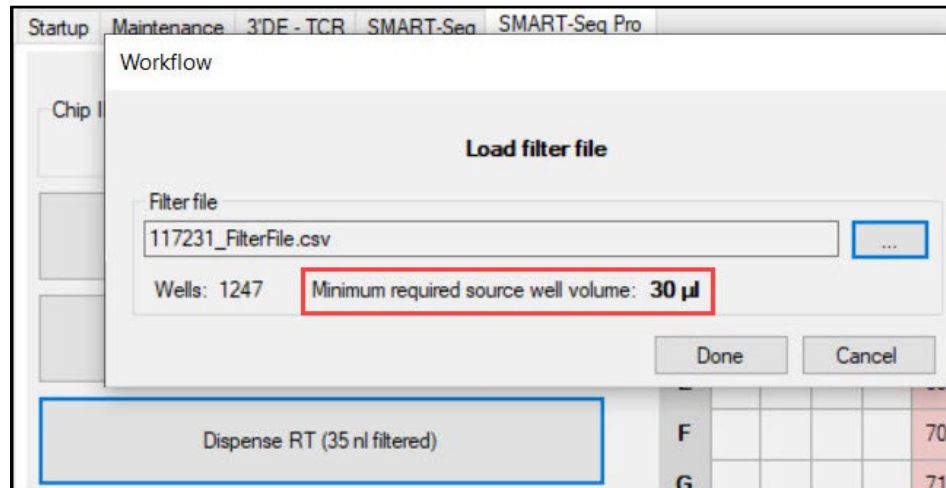

Figure 94. Minimum source well volume message after filter file import for a reagent dispense.
- d. Ensure the source well in the 384-well plate contains at minimum the volume displayed in the message. In Figure 94, the minimum volume needed per source plate well is 30 µl.